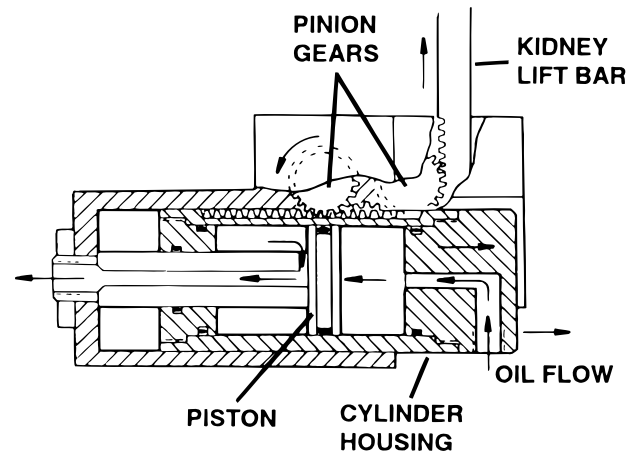

Figure 1-15. Kidney Lift Cylinder Assembly
5. Kidney Lift - The kidney lift cylinder assembly is a unique type of double action cylinder where the piston remains stationary and the outer housing or cylinder has the relative motion. The cylinder housing has rack teeth cut into the top which meshes with a pinion gear. This gear meshes with other gears to supply the up or down drive for the kidney lift bars, depending on which direction the oil is pumped into the cylinder. See figure 1-15. A cross shaft transmits the rotary motion of the cylinder pinion gear to a gear set on the other side of the table. This enables the kidney lift bars to move up and down together without binding.